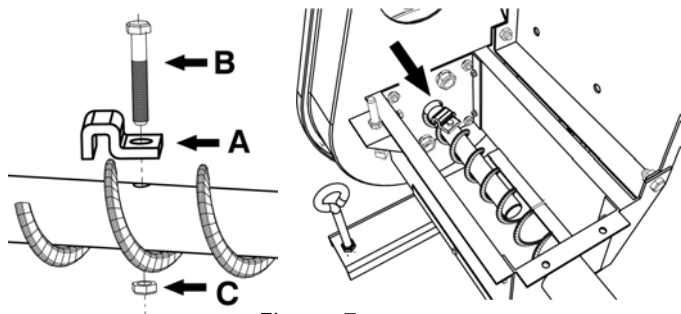

Figure 7
- 06- Attach the AUGER to the shaft** of the drive unit using the set “restraint block” (see figure 7) made up by the safety clamp **(A)**, the screw **(B)** and the self-locking nut **(C)**.